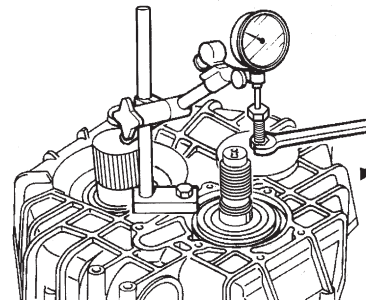

FIG. 5-5b
- e) Adjust the dial indicator needle on top of the bolt head and «O» to dial indicator (Fig. 5-5b).
- f) Screw hexagon nut carefully against housing (intermediate shaft moves up) until bearing clearance is overcome (Fig. 5-5b).